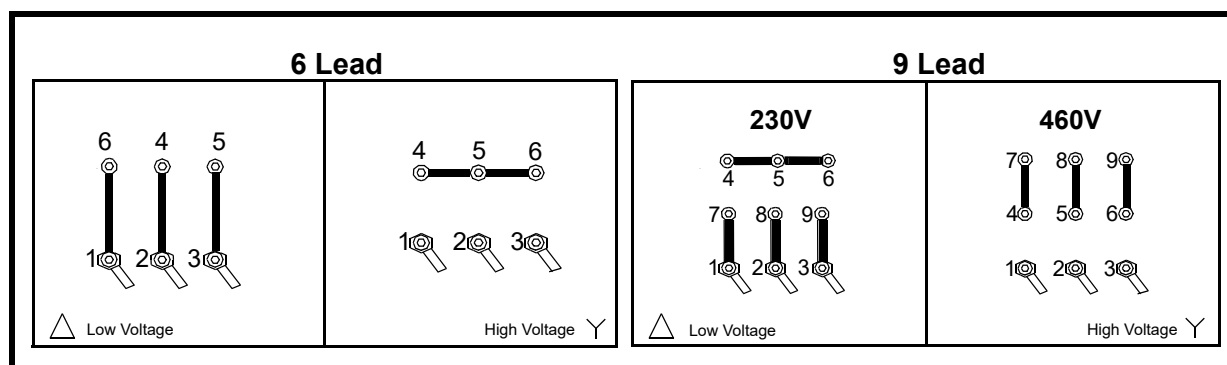

Figure 2. Wiring Diagrams
2. Wire vibrator according to appropriate wiring diagram inside terminal box or see Figure 2. Use **closed loop wire connectors only**.